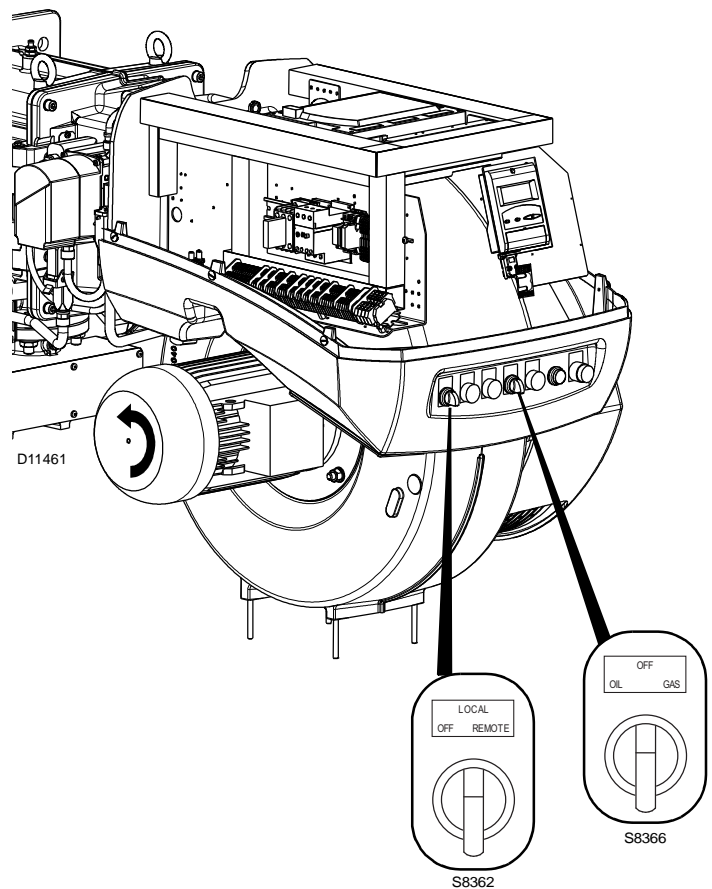

Fig. 49
Turn the switch to position “LOCAL” and turn the switch to position “OIL” for oil operation and “GAS” for gas operation (Fig. 49).
When the burner starts, check the direction of the motor rotation, as indicated in Fig. 49.
- place the switch of Fig. 49 in position “OFF” and wait for the control box to carry out the switch-off phase;